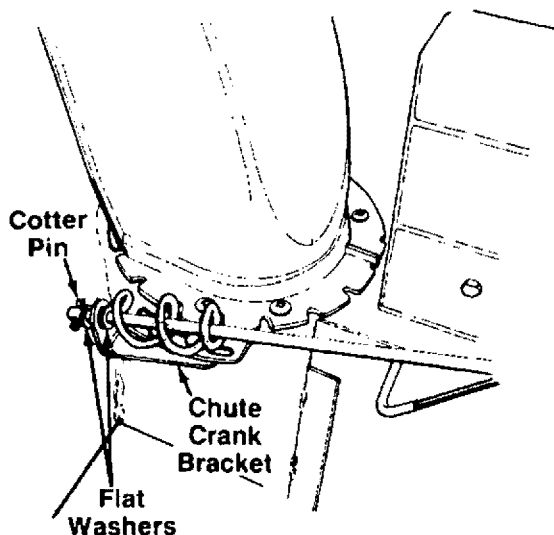

FIGURE 5.
6. Place one  $\frac{3}{8}$ " flat washer on the end of the chute crank assembly. Insert the end of the crank into the plastic bushing in the chute crank bracket. See figure 5.